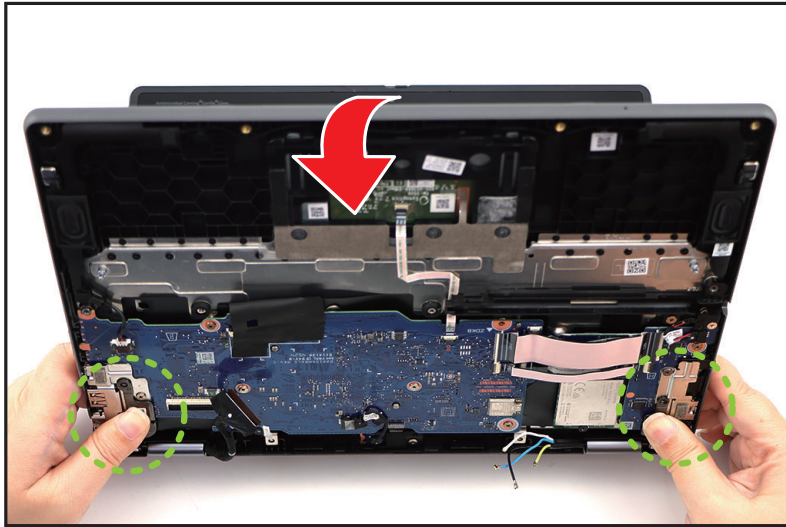

Figure 1-21. LCD Module Removal
6. By holding the LCD hinges, lift to open the top assembly (Figure 1-21).